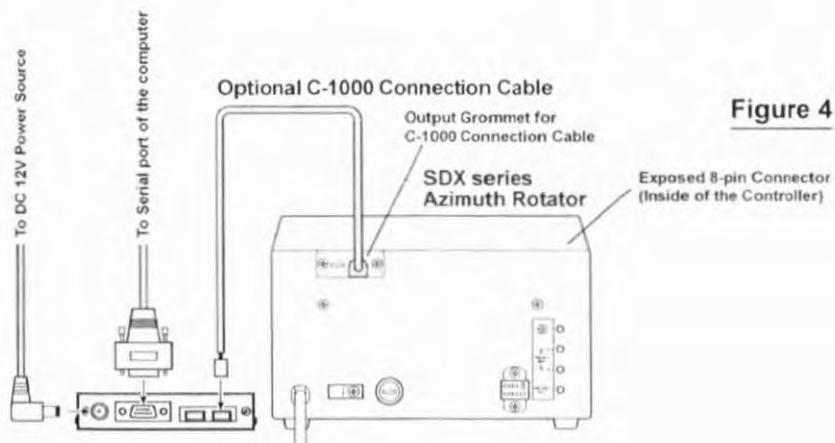

Figure 4
- Route the 5-pin connector of the **C-1000** Connection cable through out the rubber grommet on the rear panel of the controller, and connect it to the **AZ** connector on the rear panel of the **GS-232B** (Figure 4).